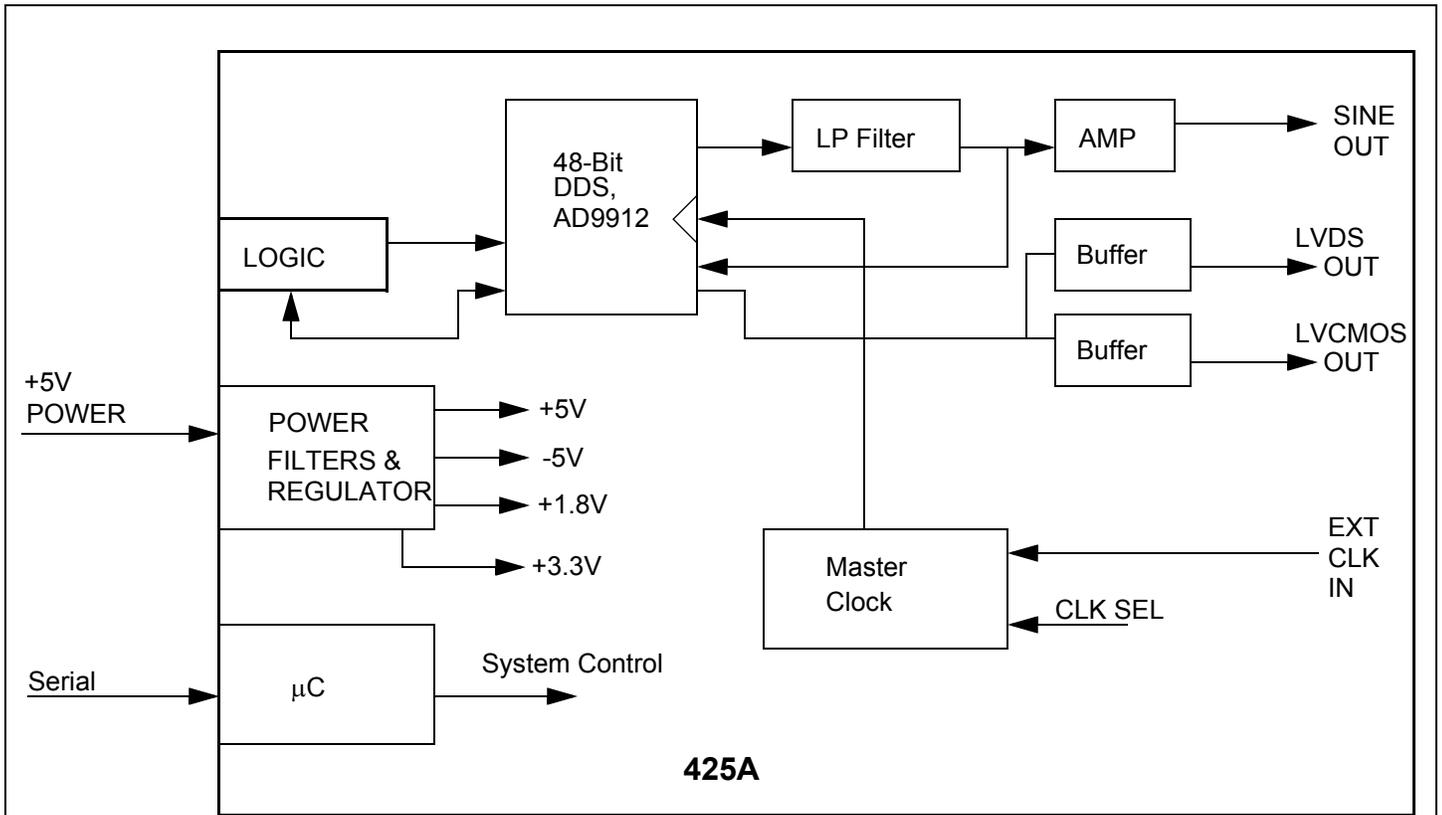

Figure 2.
5.1 Please refer to the simplified System Block Diagram in Figure 2 for the following discussion.